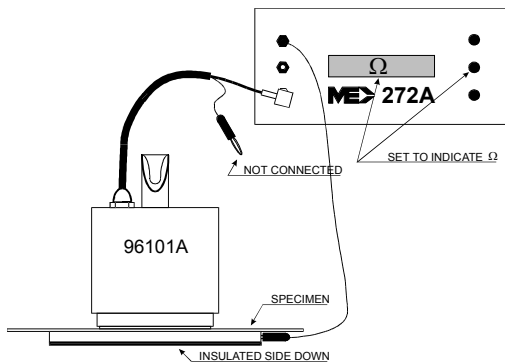

Figure 5
The Connections for unguarded measurements are given in Figure 5. Factors for converting meter readings (in  $\Omega$ ) directly to volume resistivity (unit  $\Omega\cdot\text{cm}$ ) are presented in Table 1. Above information is presented as an overview of some of the complications involved in the use of the concentric or guarded ring type electrode. Either of the standards should be consulted for further details.
- 1) Arrange test setup as in Figure 5.